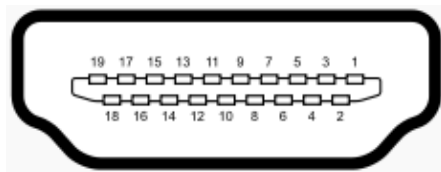

Figure 4-25: HDMI Connector Pinout Locations
- CN Pinouts:** See **Table 4-22** and **Figure 4-25**